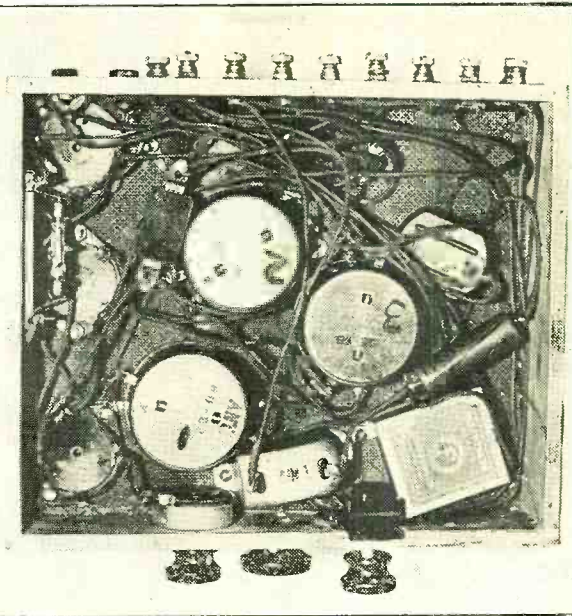

FIG. 2
There are three tuned r-f transformers, T1, T2 and T3, all shielded. The arrangement of these coils is shown in Fig. 2, which is a view of the under side of the completed receiver. The coils look like watch cases and are numbered from (1) to (3) in the order in which they are connected in the circuit.